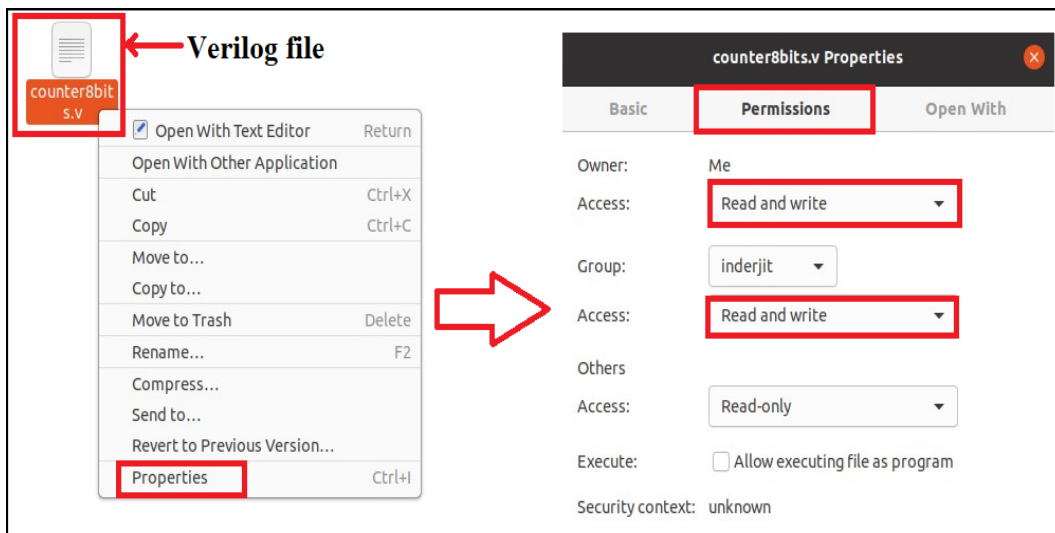

Figure 10.44: Read-Write Permissions for Verilog file
3. The verilog file should have Read and write Permissions. To set read and write permissions of the verilog file, right click on verilog file and click on **Properties**. Next click on **Permissions** and select access as **Read and write** as shown in Fig. 10.44.